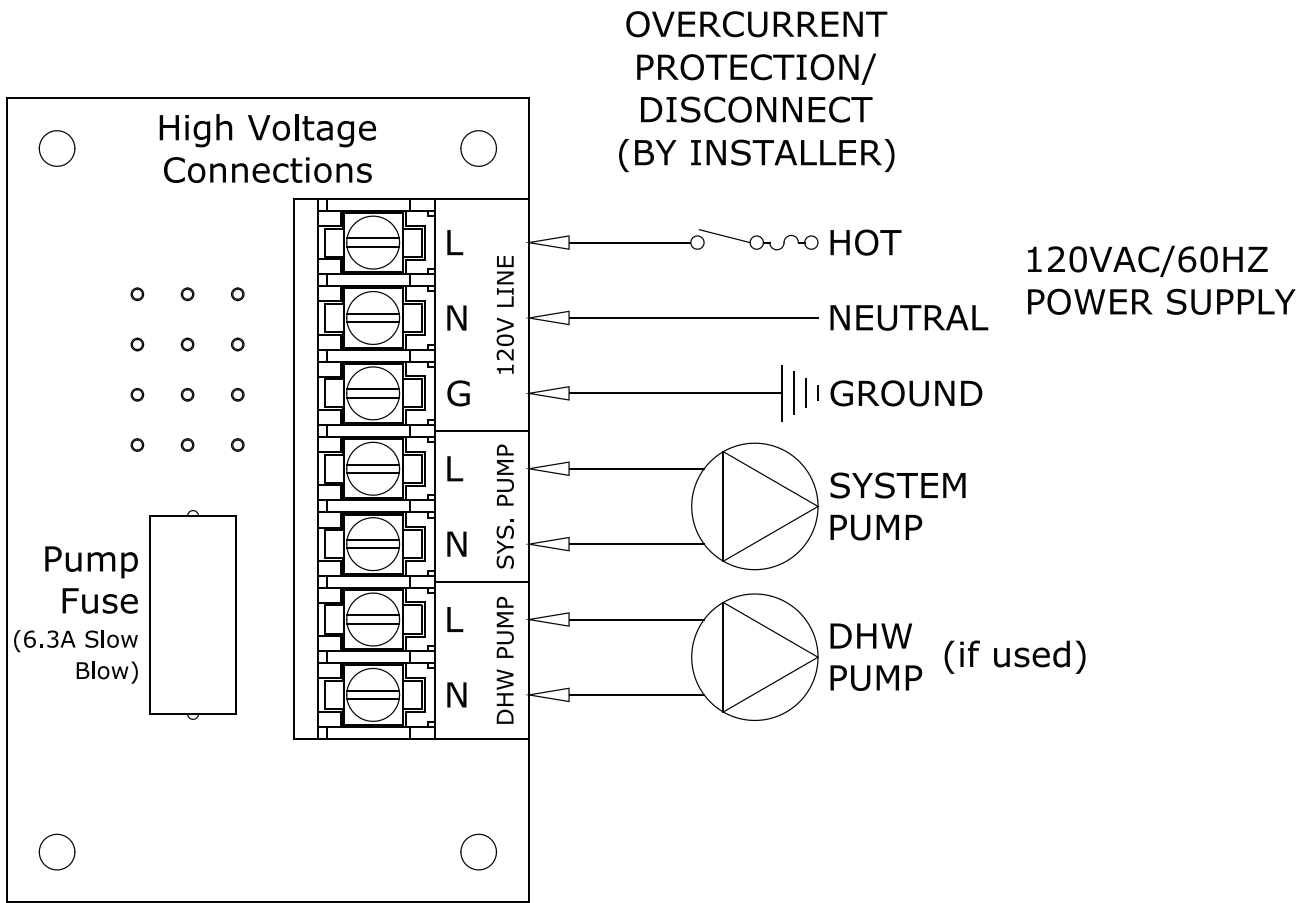

Figure 10.2: High Voltage PCB Terminal Connections
1) Line Voltage (120 VAC) Field Connections – See Figure 10.2 for line voltage connections. Provide a dedicated circuit for the boiler of 15A or greater. A service switch is recommended and is required by many local codes. Locate this switch in accordance with local codes or, in the absence of any, in a location where it can be safely accessed in an emergency involving the boiler. All 120VAC connections to the boiler itself are made on the terminal strip on the high voltage PCB located on the left side of the wiring compartment. From top to bottom, the connections on the terminal strip are: